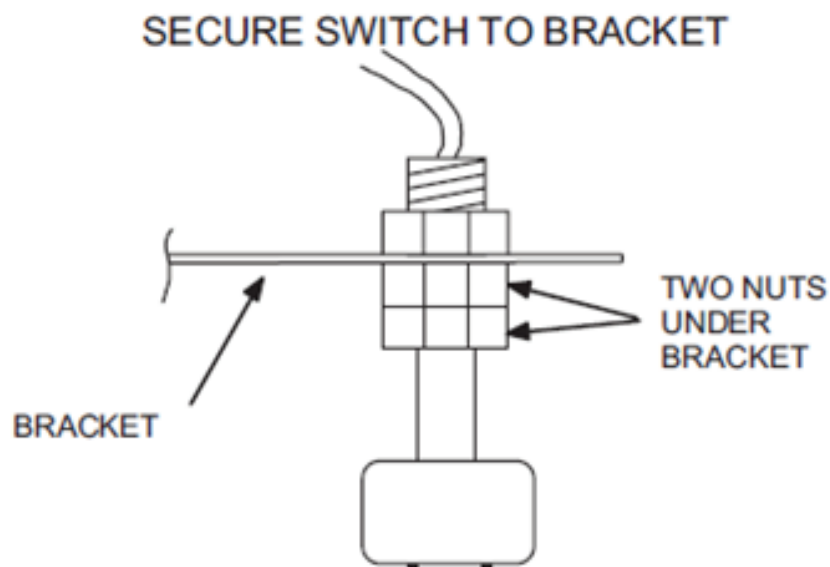

FIGURE 1
- 3 - Secure overflow switch to bracket. See FIGURE 1.